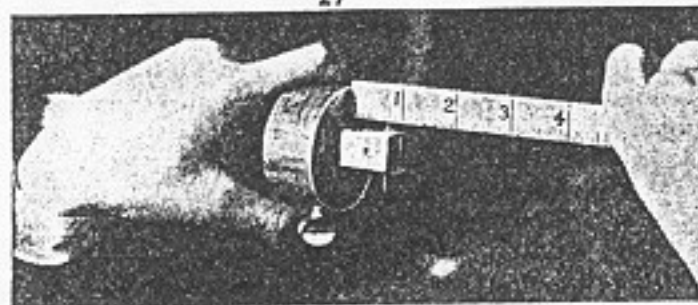

Fig. 42. Setting marking gauge accurately by measuring between block and spur.
1. The head is fastened to the bar at the desired point on the scale. As the spur in time works loose or becomes bent, it is best to check the measurement from the head to the spur with a rule (Fig. 42).